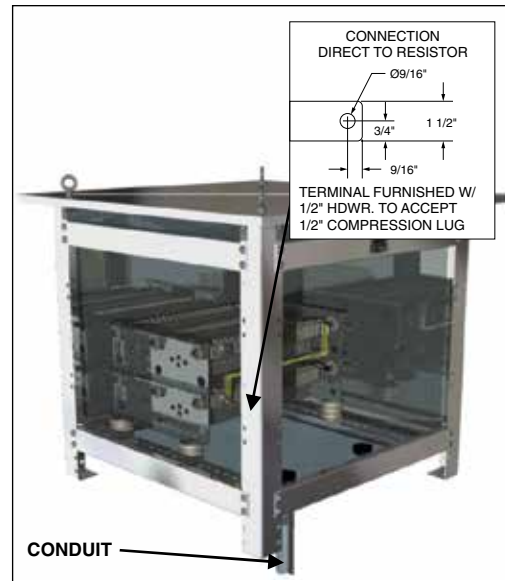

Figure 2: Grid resistors
2. For grid type resistors, the connection is made directly to the resistive element inside the enclosure via rigid conduit entering from the bottom. The neutral terminal is tagged for easy identification. A compression type lug is used for terminal connection. Location and termination of the conduit is the customer's responsibility. (See Figure 2.)